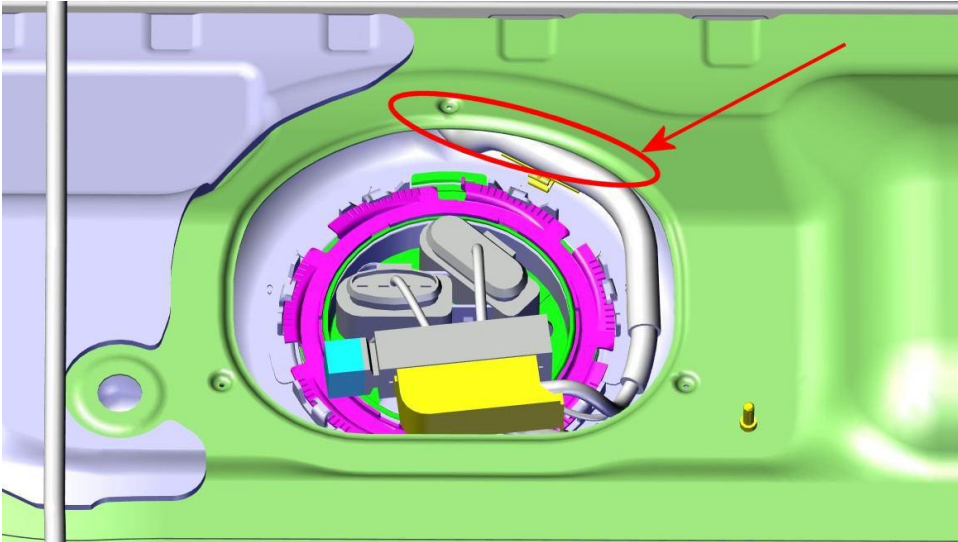

Figure 5
- Referring to Figure 5 – Conduct a check of the wiring harness to confirm if any damage is evident